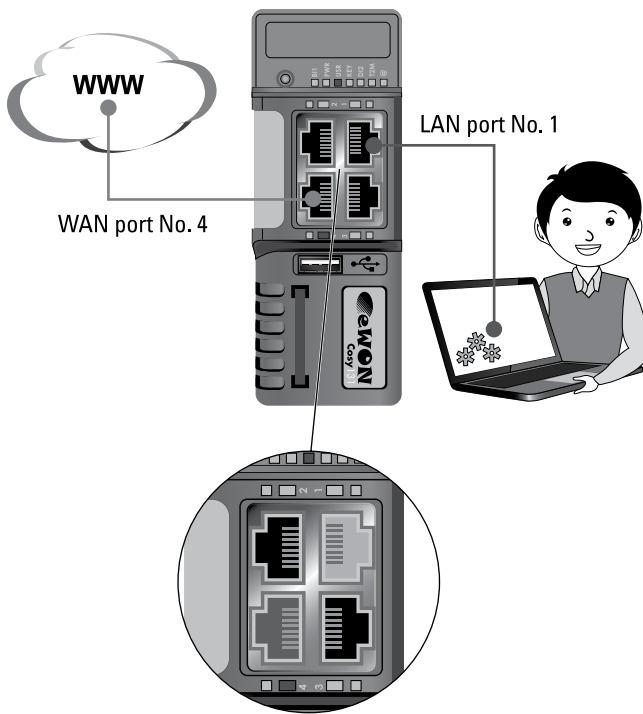

FIGURE 6-4: Identifying the WAN port on your eWON.
9. **Plug the Internet cable into the wide area network (WAN) port.** The WAN port is number 4 (by default) on the bottom left of the eWON (see Figure 6-4). You can verify it by looking for the red LED light (instead of a green light) beneath the Ethernet port. When your settings are complete, unplug the Ethernet cable between the eWON and your computer and set the IP address of your computer back to its original state.